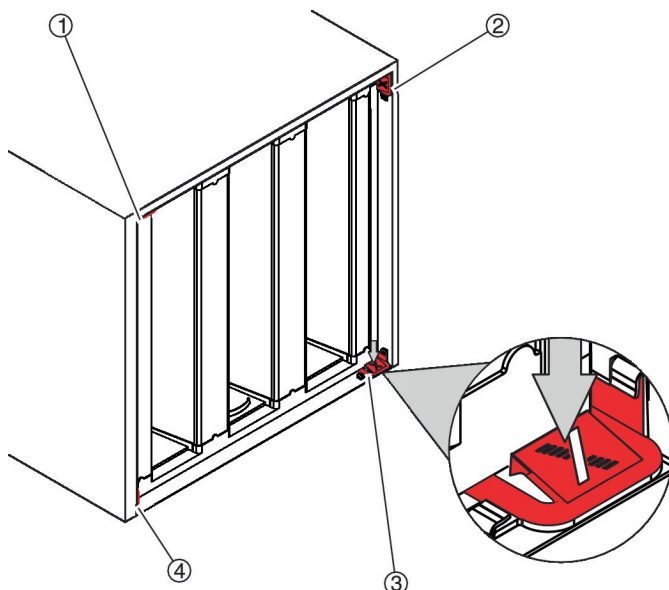

Fig. 53: Loosening the quick release fasteners
3. ▶ Press down the quick release fasteners (Fig. 53 /1 to 4).